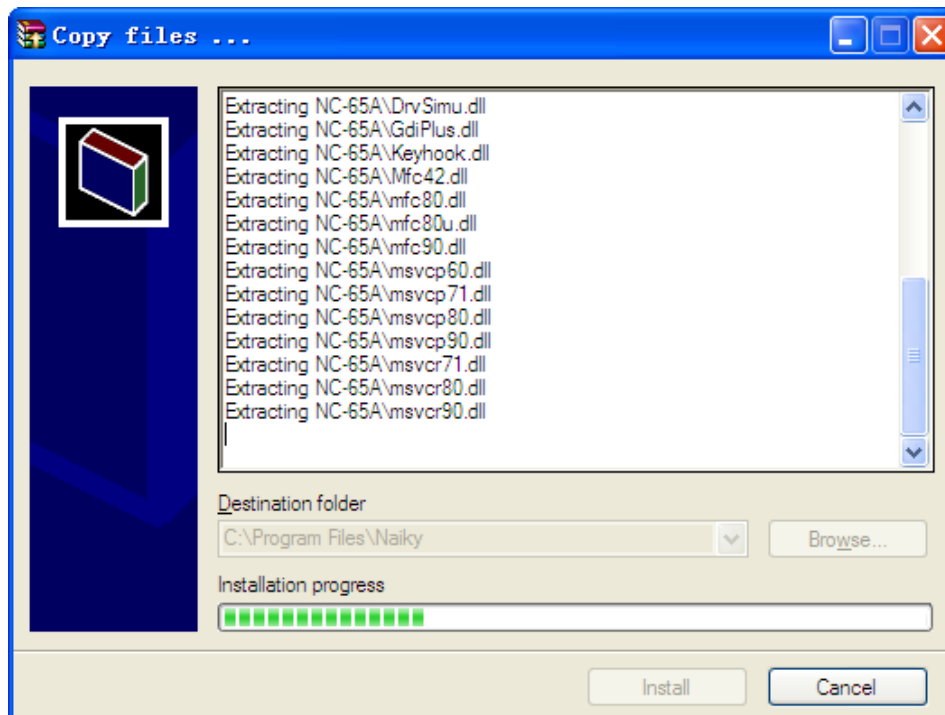

Fig. 7-4 Software setup progress
- 4) Click “OK” to continue installation, the progress bar displayed, as shown in Fig. 7-4.